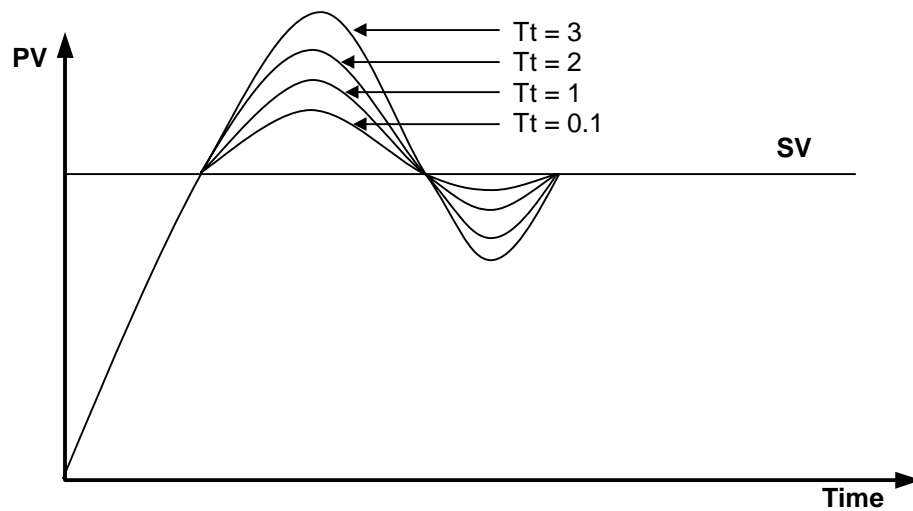

Fig. 2-14 The PV output characteristics with different T_t values.
($1/T_t$) and E_s to the input of integral term. The E_s is obtained as the difference value between actuator output (U) and manipulation value of PID controller (MV). The T_t of the feedback gain is tracking time constant, and it is in inverse proportion with the resetting speed of integral term. Smaller T_t will cancel the windup of actuator faster, but too small T_t can cause anti-windup operation in derivative operation. The Fig. 2-14 shows several T_t value and PV in the PI control system.